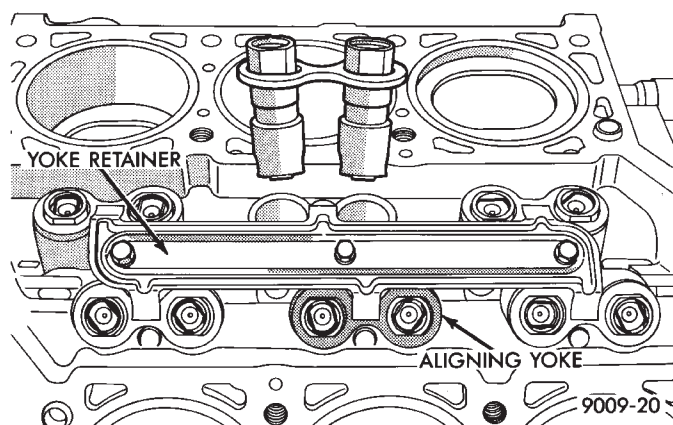

Fig. 29 Roller Tappets Aligning Yoke and Retainer
- (2) Install tappets in their original positions.
- (3) With roller tappets, install aligning yokes (Fig. 29).
- (4) Install yoke retainer and torque screws to 12 N·m (105 in. lbs.) (Fig. 29).